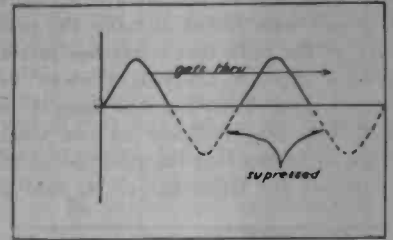

Fig. 3. What Rectifier Does
A great increase in temperature will also cause the film to become conducting or at least cause flash over, so by using plenty of electrolyte this is guarded against. When the cell is working properly, a pulsating direct current will flow as shown in Fig 3. This lets one half of the AC through and suppresses the other half. All alternating current rectifiers give such an output. To give a pure direct current (DC) they require a filter. Such a filter consists of a combination of coils to prevent the pulsations from getting into the useful circuit and condensers which allow the pulsations to be drained off. But since for our purposes this is unnecessary we need not discuss it here.